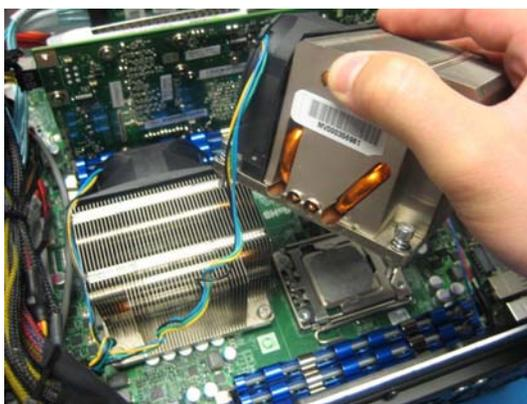

Figure 3-73
- 3) The two power connectors of the CPU fans are tie-wrapped together, remove the tie-wrap before attempting to remove the heatsink. Gently lift the cooling fan assembly away from the chassis as illustrated in Figure 3-73.